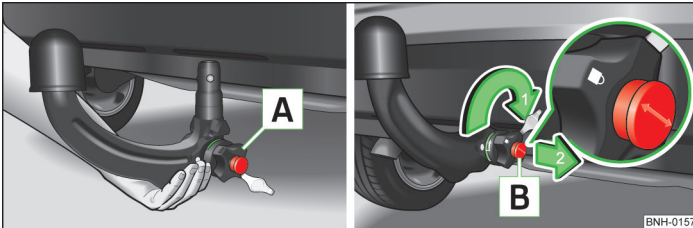

Fig. 8 Insert the ball bar/lock the lock and remove the key
- > Grip the ball bar from underneath » Fig. 8 and insert into the mounting recess until it is heard to latch » .